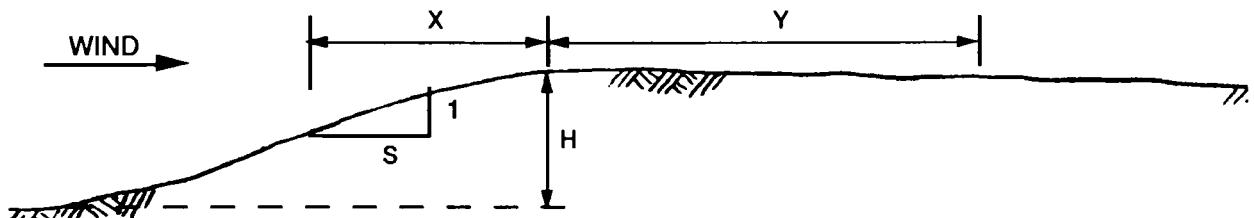

FIGURE A4.4.2
- A4.4.2 Distances upwind and downwind from crest of escarpments over which topographic multiplying factors must be applied are given in Figure A4.4.2 and Table A4.4.2.